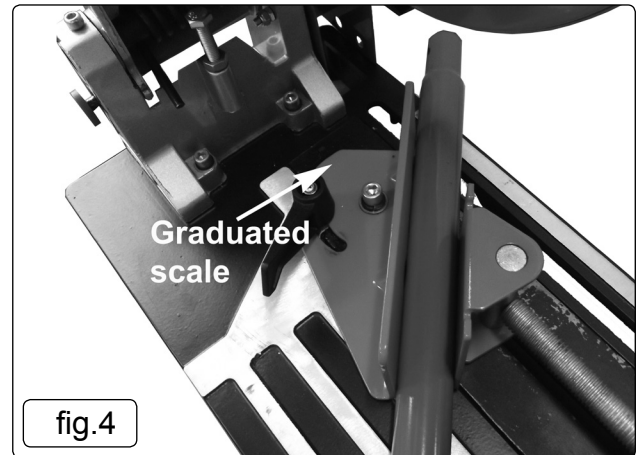

fig.4
- 4.4.1. To cut at an angle loosen the vice backstop locking handle, by turning it anticlockwise. Lift the handle vertically and turn it clockwise to loosen the nut underneath if required. Align to the desired angle using the graduated scale on the base plate shown in fig.4, and retighten the vice backstop locking handle. Place the workpiece against the backstop and move the other jaw up to it, and securely tighten.